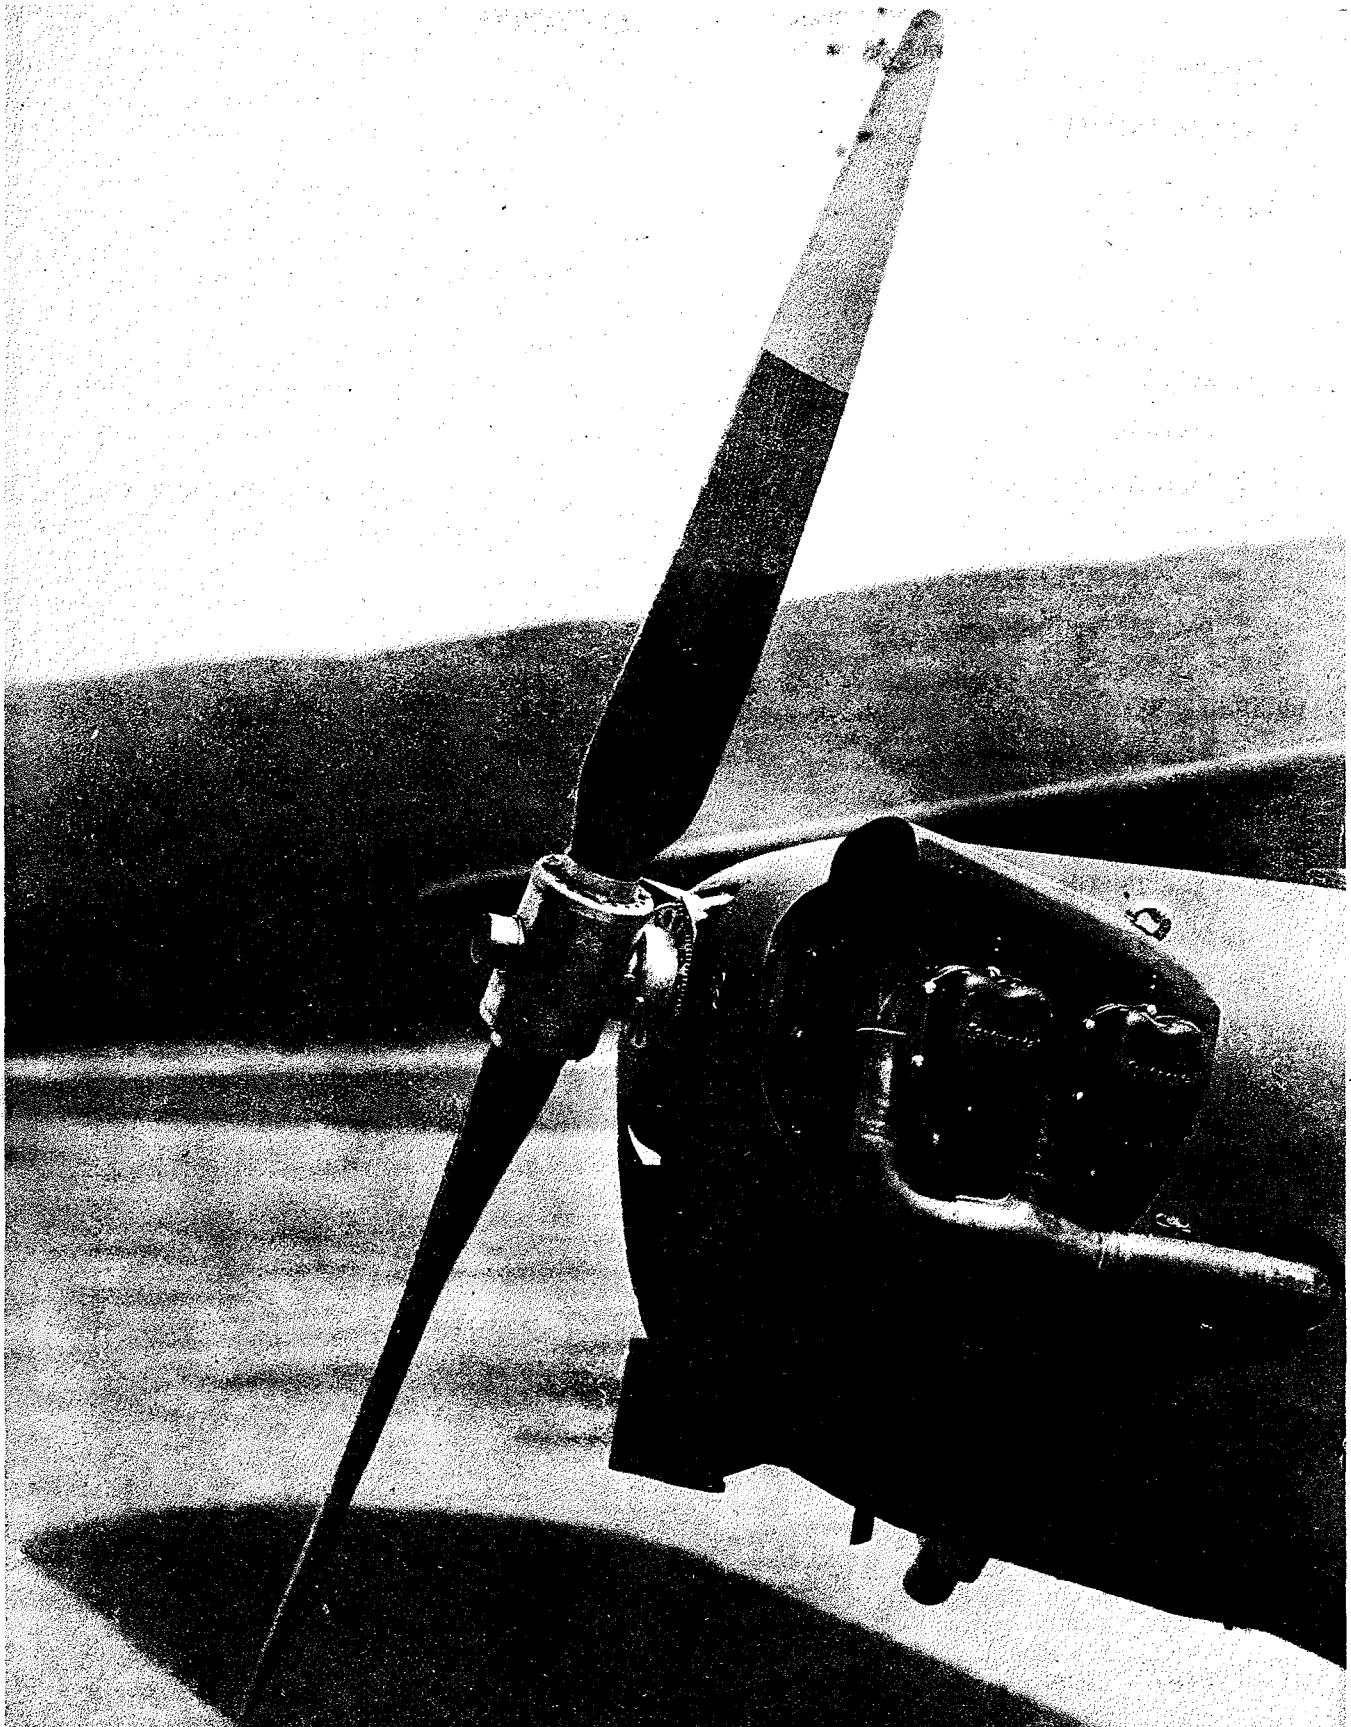

Figure 1—Model R002 Propeller on L-4J Airplane
d. The illustration shown in figure 1, designated model R002, indicates a propeller with a hub that will fit a "Continental Modified" SAE 0 tapered shaft and is modification No. 2 of the original design. This propeller may be installed on Continental engine numbers A50, A65, A75, and A80.